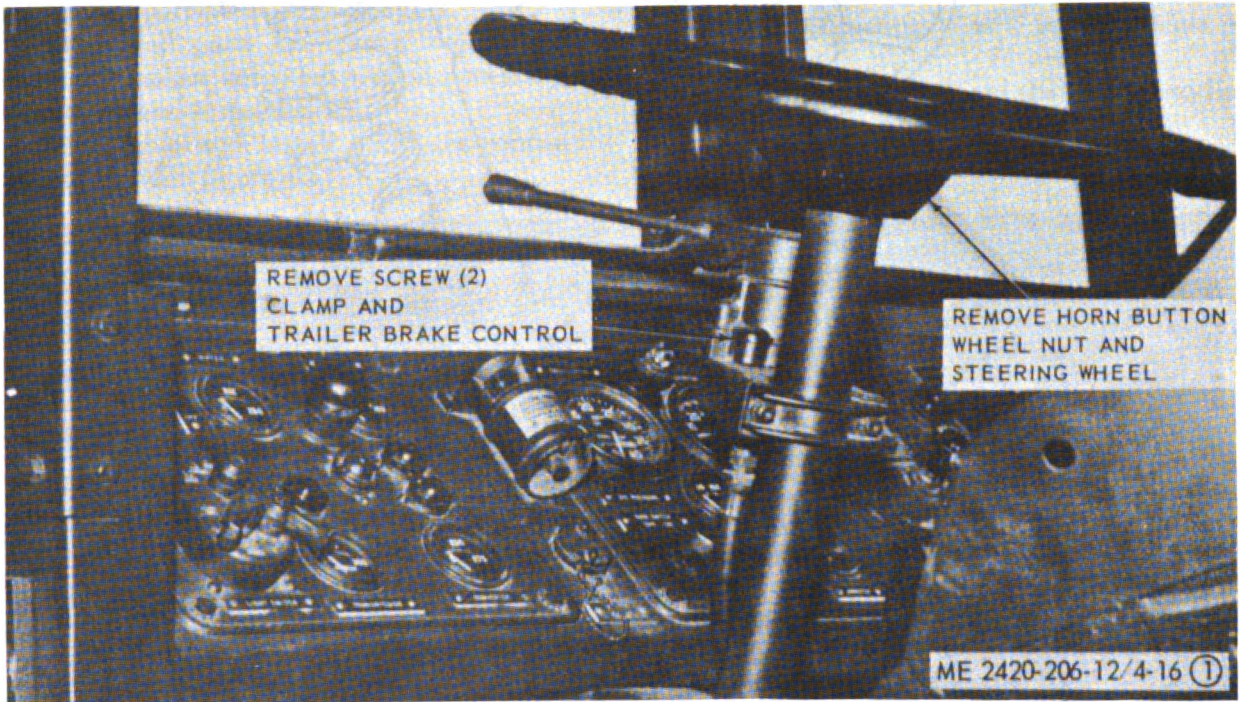

Figure 4-16. Steering wheel, trailer brake control, removal and installation. (sheet 1 of 2).
a. *Removal.* Remove steering wheel and trailer brake control as illustrated in figure 4-16. Remove screws (9) from retainer (10), pry simultaneously with two small screwdrivers on opposite edges of
- (1) Clean parts and dry thoroughly.
- (2) Inspect for cracks, breaks and other damage. Replace defective parts as necessary.
c. *Installation.* Install steering wheel and trailer brake control in reverse order of removal, figure 4-16.
- (1) Park tractor in a straight direction.
- (2) Remove floorplate beside steering column. Remove nut (2) that secures ball stud (4) of the drag link to the pitman arm (21) of steering gear (22). Disengage ball stud from pitman arm.
- (3) With engine off, turn steering wheel gently until it stops at its limit of rotation in either direction. Turn steering wheel in opposite direction, counting number of turns necessary to reach